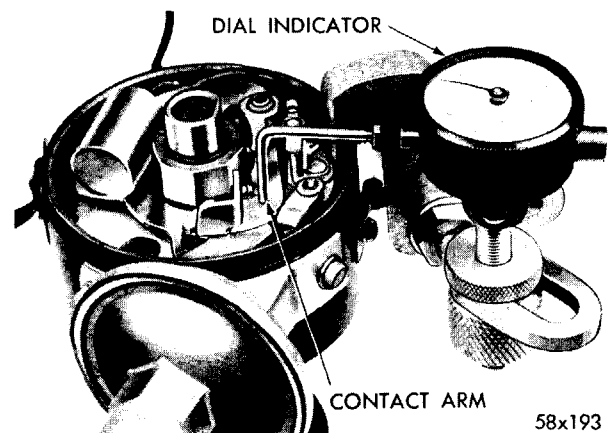

Fig. 16—Checking Point Clearance with Indicator
(1) Loosen terminal screw nut and remove primary lead, condenser lead and old contact set.
(2) Install a new contact set, the sleeve, at one end of the adjustable bracket fits over and pivots on the upper breaker plate mounting pin, the contact insulator also retains the terminal screw head.
(3) Align contacts if necessary to provide center contact by bending stationary contact bracket only. **Never bend** movable arm to obtain alignment.
(4) After aligning the contacts, readjust point clearance to obtain specifications using dial indicator, as shown in Figure 16.
(5) Check dwell angle to show proper degree of closure. (See Paragraph 4.) "Distributor Point Dwell". The lock screw should be loosened just enough so that the stationary point can be moved with a slight drag;